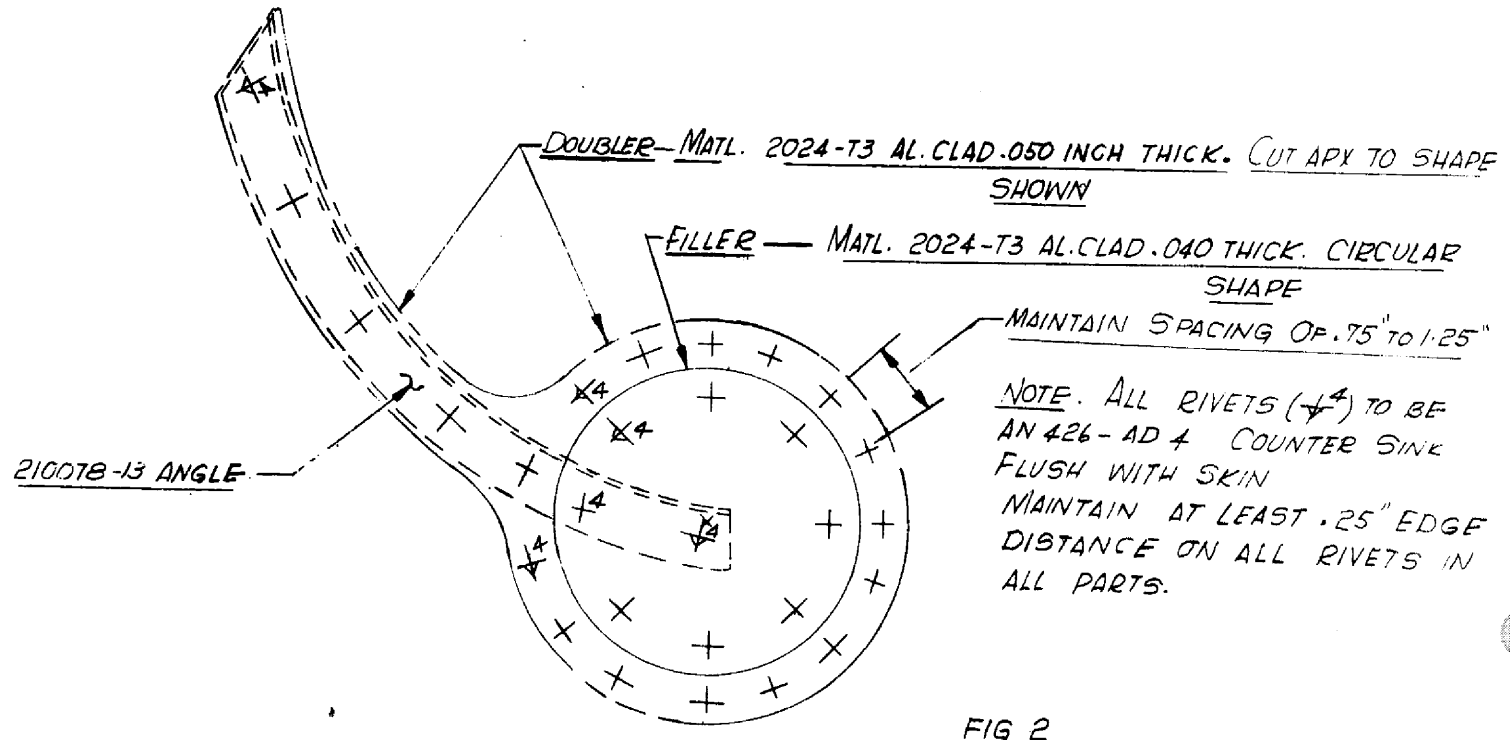

FIG 2
3. Cut out circular hole around crack, with edge of hole $\frac{1}{4}$ " minimum beyond the crack. Cut and locate a doubler per Figure 2 and rivet it and 210078-13 angle to the wing skin. Cut and install a filler plate to the attach angle and the doubler plate as shown.